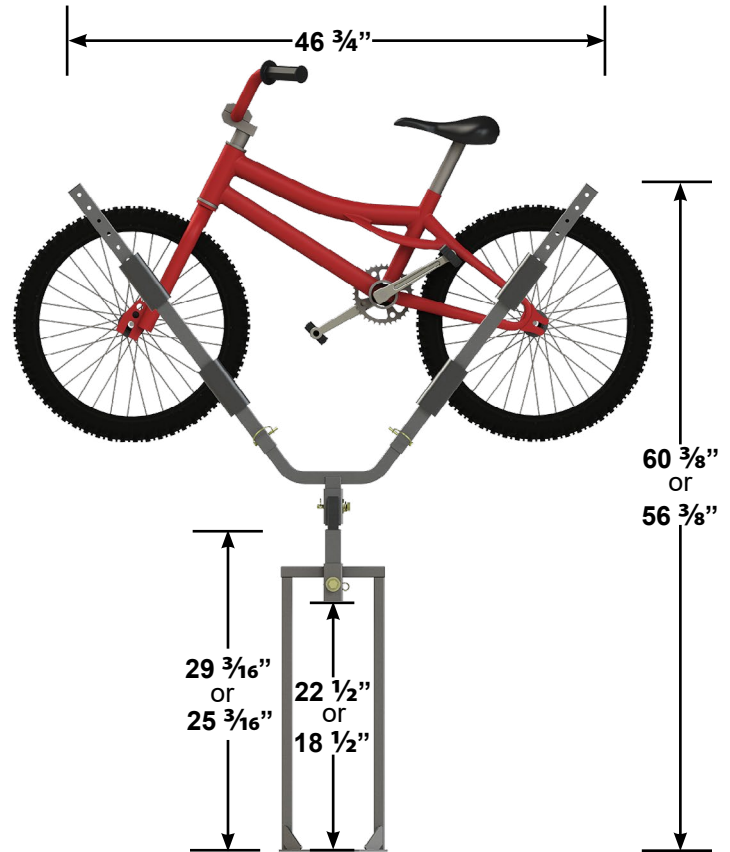

Fig.7
2. Hang one bicycle on the trailer side of the bicycle rack so the top of the wheels are each supported by a cradle (Fig.7).
Dimensions of Assembled Jack-It (Fig. 7)